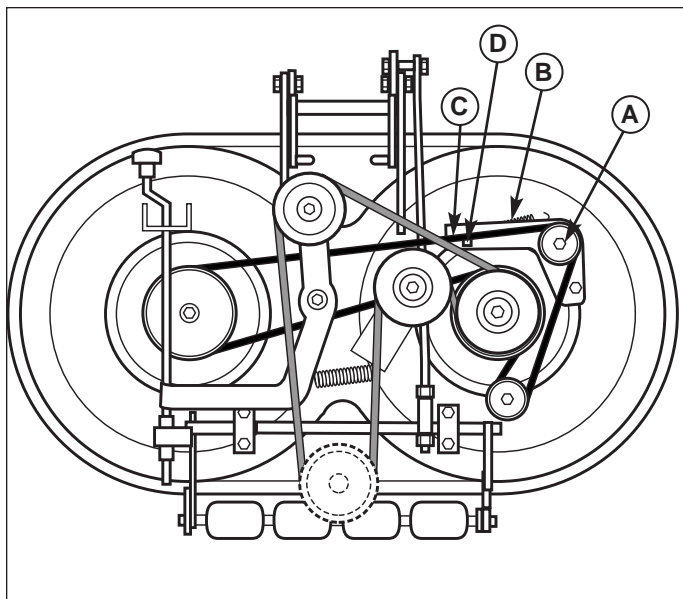
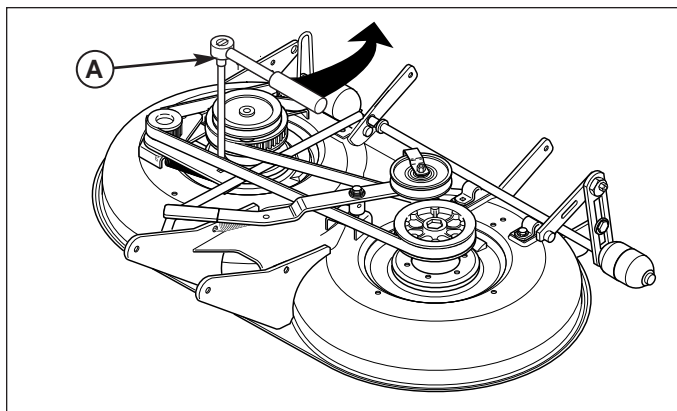
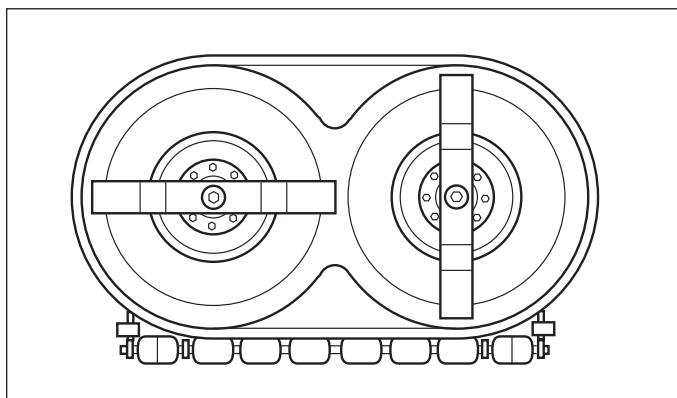

Figure 32. Mulching Deck (Belt Covers Removed)
Figure 33. Release Cogged Belt Tension
Figure 34. Mower Blade Timing
3. Loosen the idler assembly capscrew (A, Figure 32).
4. Using a ratchet (A, Figure 33), insert the end of the extension into the square hole (D, Figure 32) and move the idler assembly (B, Figure 32) to relieve tension on the belt (C).
5. Remove the belt (C).
6. Install a new belt (C) on the pulleys as shown. Releasing the idler assembly (A) allows the spring to automatically tension the cogged belt.
7. Tighten the idler assembly capscrew (A). Reinstall the belt covers.
8. Check that the blades are positioned perpendicular to each other (see Figure 34). If not, perform the mower blade timing procedure found in the Regular Maintenance section.